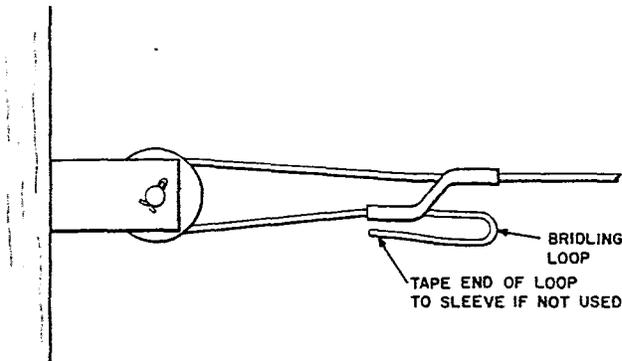

Fig. 5—Bridling Loop Formed
(7) After the sleeve has been pressed, bend back the free 8-inch length of line wire forming a bridling loop (Fig. 5). The end of the wire should be even with the end of the sleeve nearest the insulator. This loop is used for bridling purposes. If bridle wire is not connected when line wire is dead ended, tape the loop end to the sleeve end.